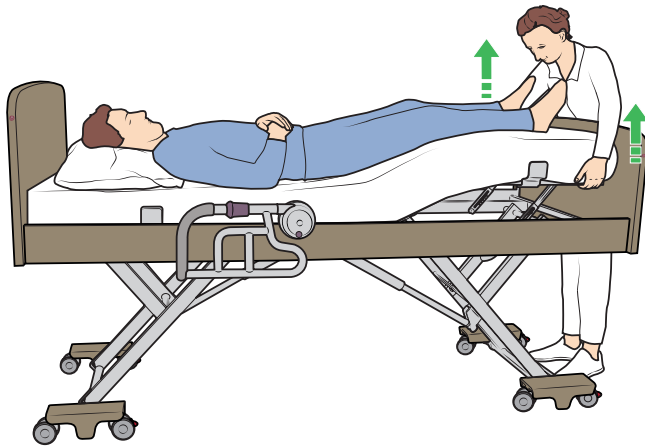

Figure 78
- To raise the calf section, lift the calf section until it locks at the desired height. See Figure 78.